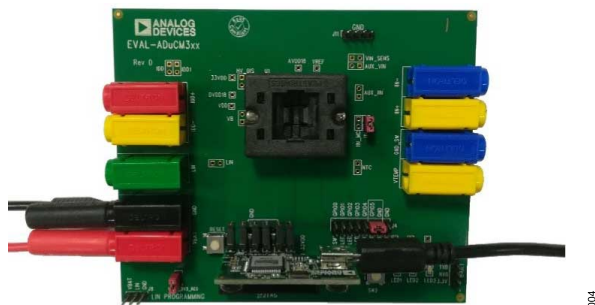

Figure 4. Mini-Link Debugger/Programmer Connection
2. Connect the debugger/programmer, noting the correct orientation as shown in Figure 4.
J2	J2 is the SWD programming interface. See the orientation shown in Figure 4 .